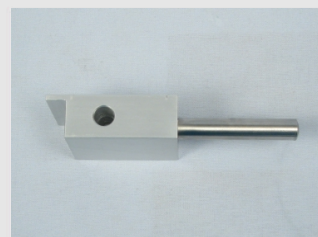

Figure 5
4. On one side of the aluminium block there is an opening for temperature measurement (Fig. 5).